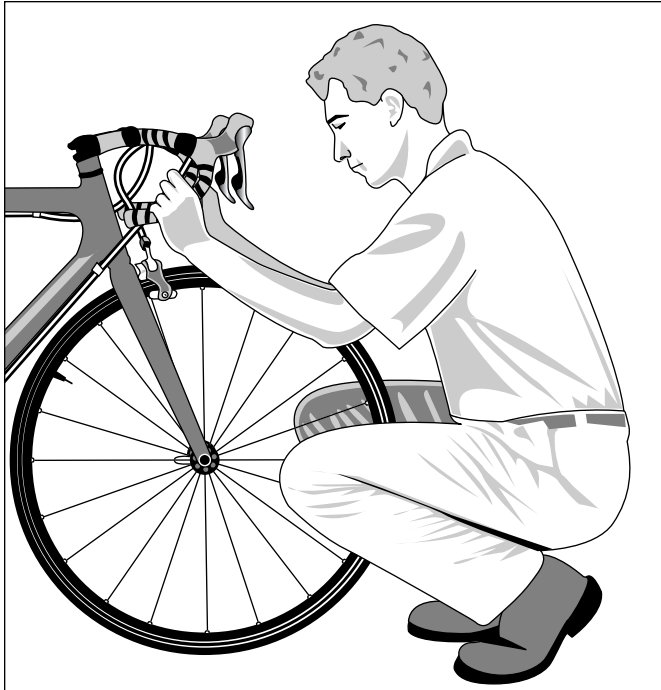

Figure 12-3:
- 1. Stand in front of your bike and peer down the center of the frame (as shown in Figure 12-3).**